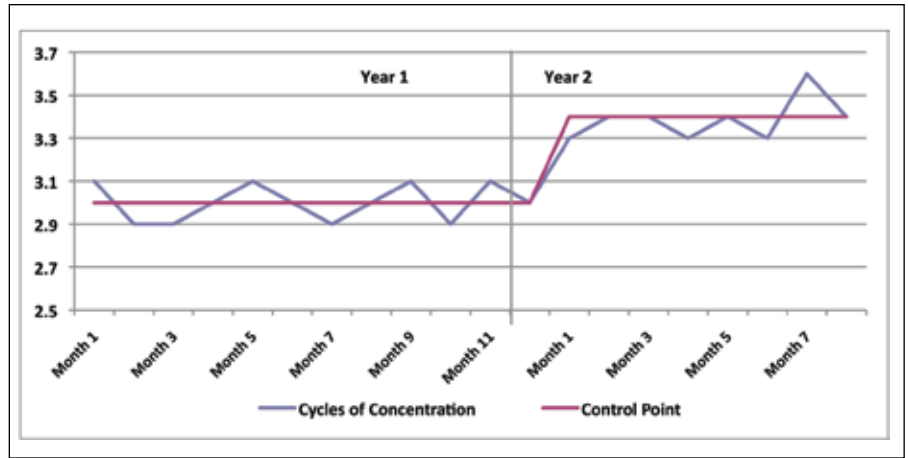

Figure 1 – Increase of cycles of concentration from 3 to 3.5.
1. By using this approach the plant increased cycles from 3.0 to 3.5 cycles and reduced water consumption by 7%. This represented savings of US \$44,962 /year and 131,365 m³/year. See Figure 1.